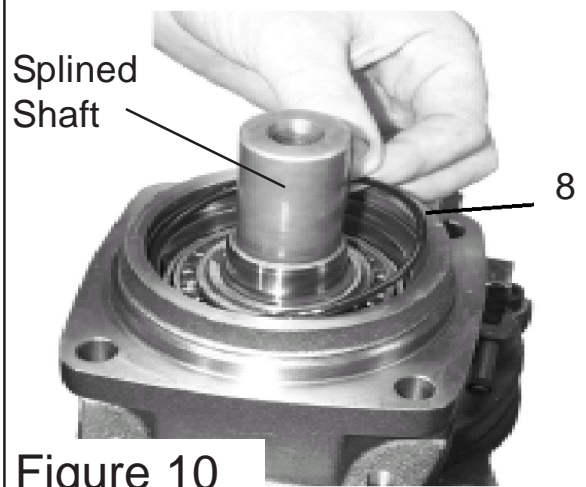

Figure 10
9. Remove sealing O-Ring. There is an O-Ring (item 8) under seal carrier that you can reach and pull out. (See Figure 10)